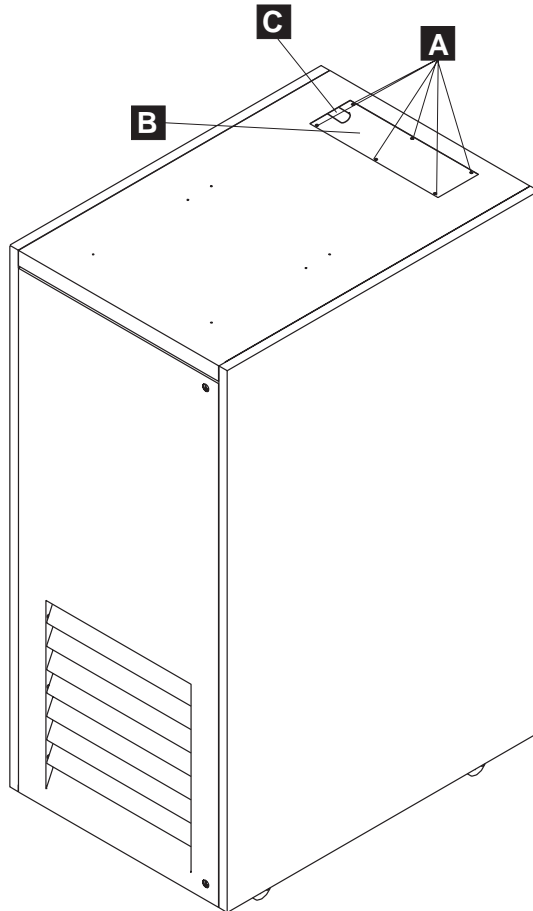

Figure 1-27. Removing of the Top Cover
1. ___ On the top of the 29 U rack, loose and remove the six screws **A** (refer to Figure 1-27).
5. ___ Reinstall the top cover **B** (see Figure 1-27 on page 1-22). Be sure that the signal and power display cables are correctly routed in the top aperture **C**. Secure the top cover with the screws **A** previously removed.